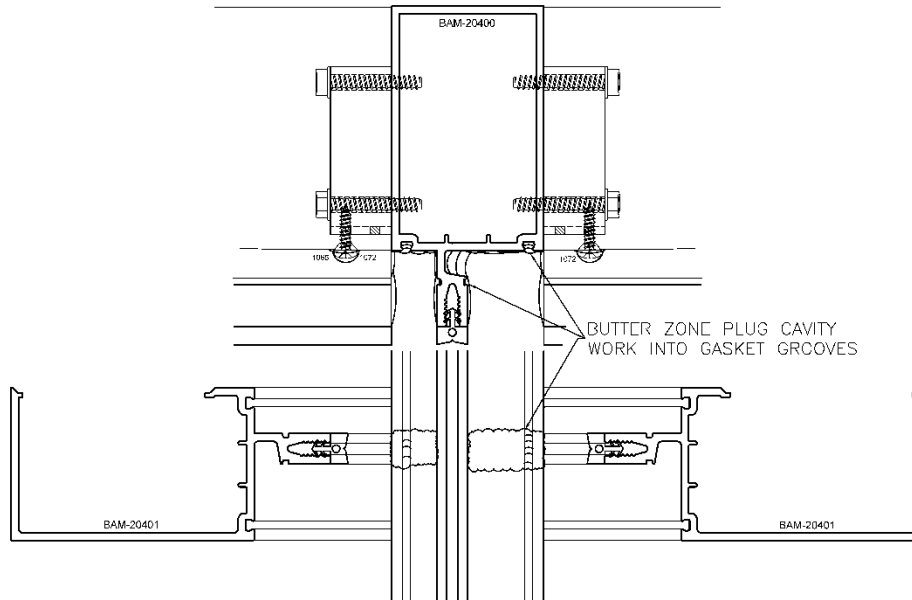

FIGURE N.1
- Install zone plugs: (FIGURES N.1 & O.1)